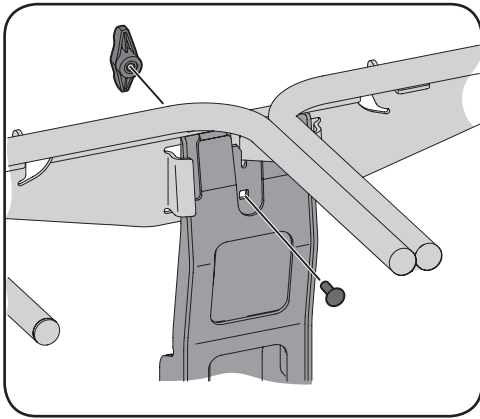

Figure 4-8
- Install the hanger assembly onto the upright support bracket using a carriage bolt (710-0276) and wing knob (720-04122) from hardware pack 689-00600. See Figure 4-8.